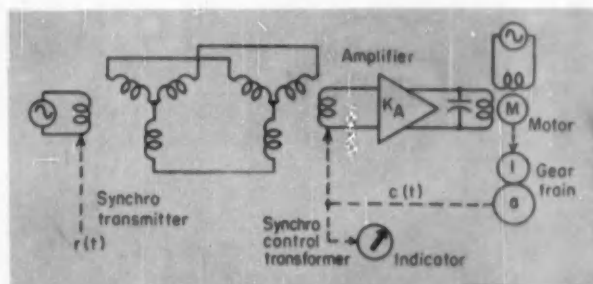

FIG. 4. Simple synchro servo for remotely positioning an indicator.
1. **DRAW DIAGRAM AND SELECT COMPONENTS**—Figure 4 shows a typical indicator-type synchro servo with following components: